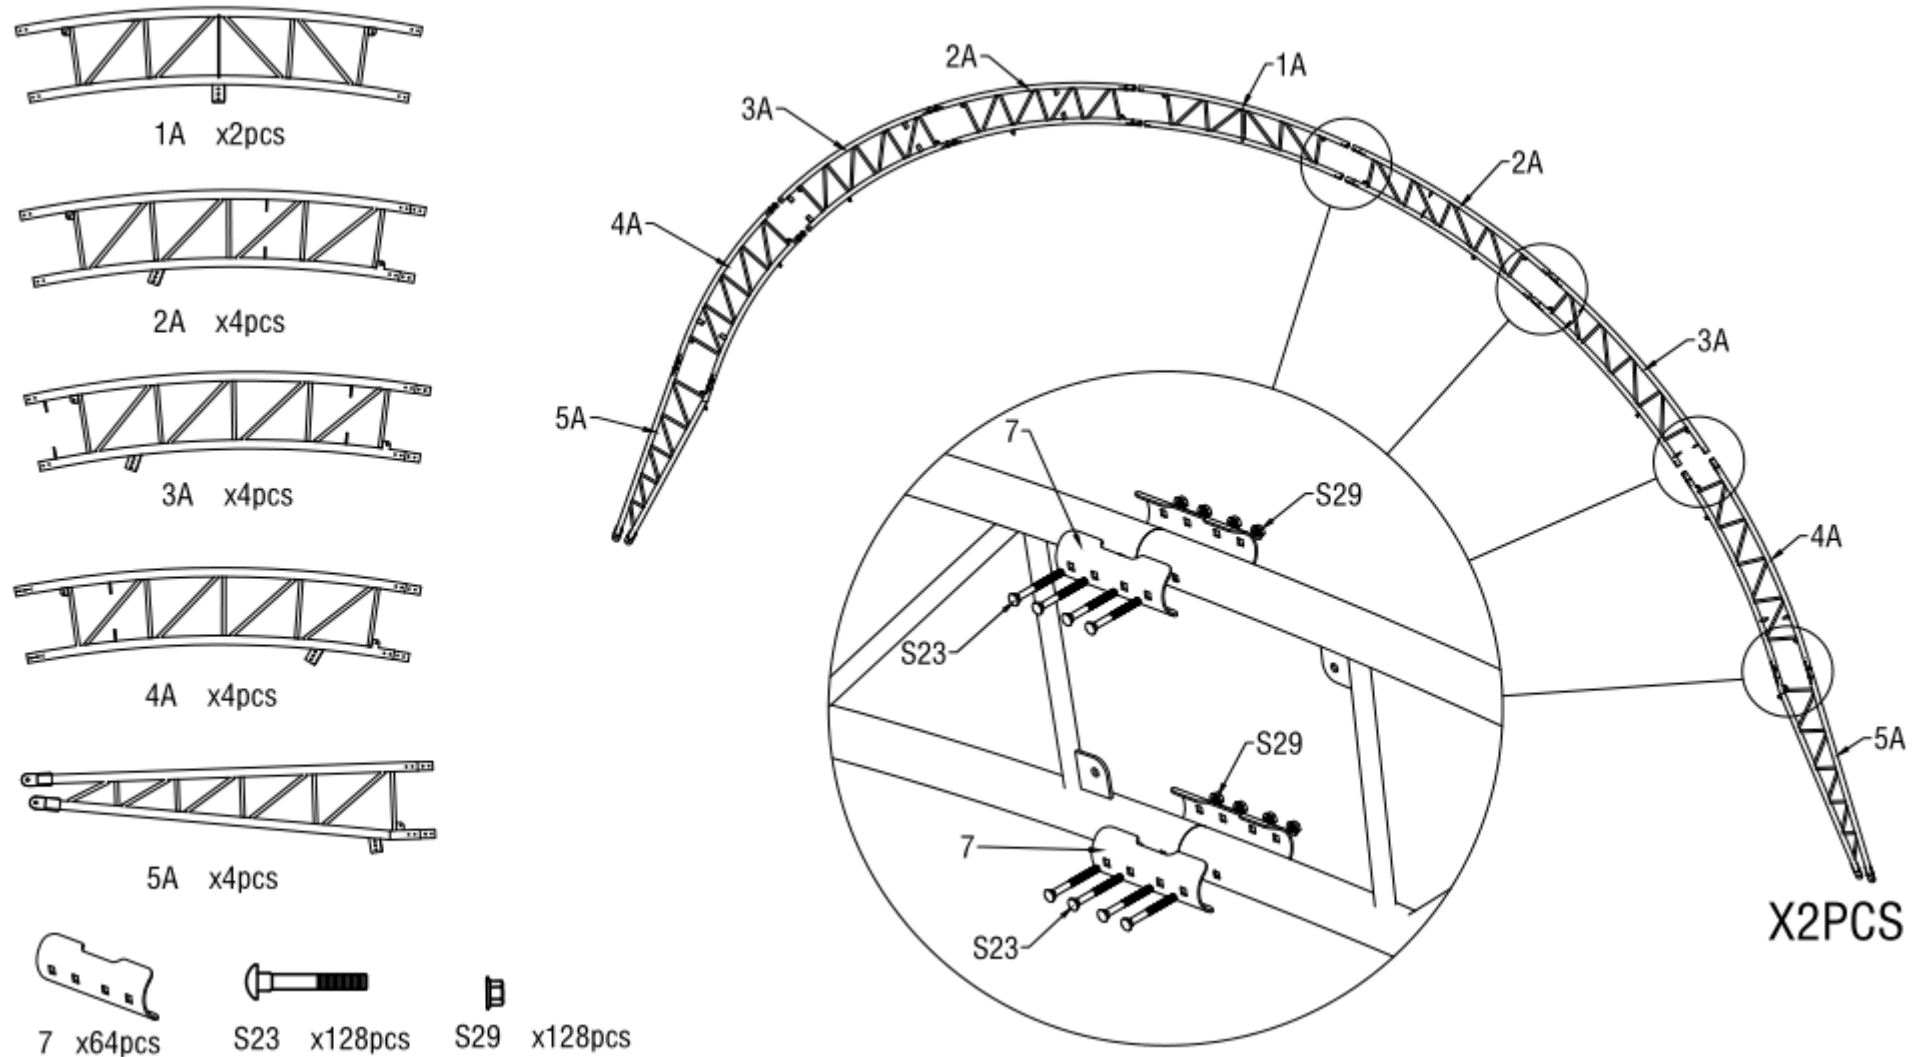

Figure 3
1. As Figure 3 shown to find one Top roof tube in the front and back door (No.1A), two Roof upper curving tube in the front and back door(No. 2A), two Roof middle curving tube in the front and back door (No. 3A) ,two Side lower curving tube in front and back door(4A) , two Lower curving tube in front and back door (5A)and assemble the first group and final group of arch with Screw M8x80 (No.S23). **DO NOT install the screw on the top of the truss where the fabric will rest.**